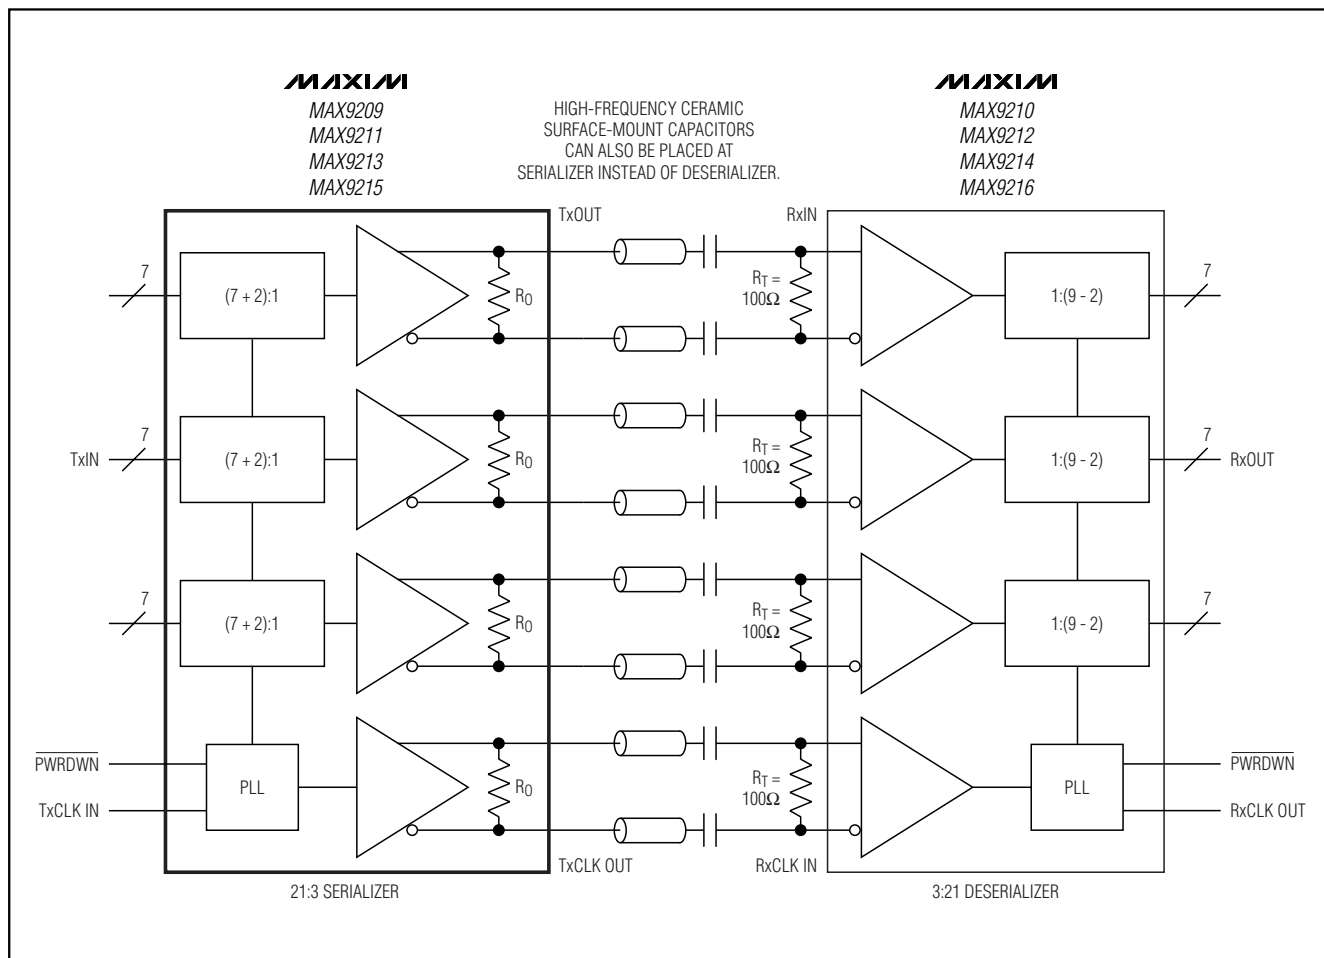
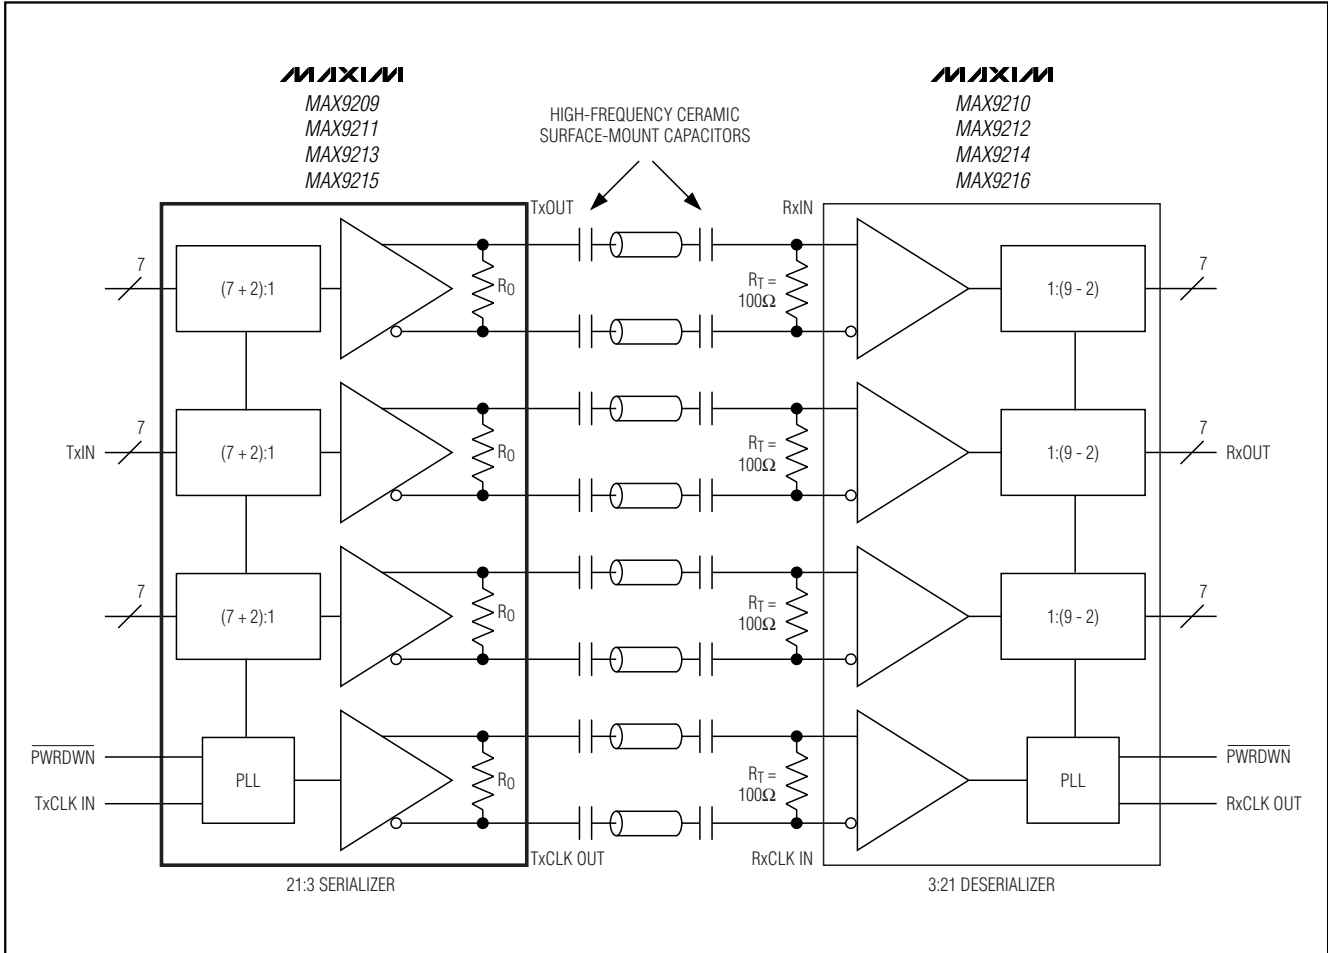

Figure 14. Two Capacitors per Link, AC-Coupled, DC-Balanced Mode
Figure 15. Four Capacitors per Link, AC-Coupled, DC-Balanced Mode
The RC network for an AC-coupled link consists of the LVDS receiver termination resistor ( $R_T$ ), the LVDS driver output resistor ( $R_O$ ), and the series AC-coupling capacitors (C). The RC time constant for two equal-value series capacitors is  $(C \times (R_T + R_O))/2$  (Figure 14). The RC time constant for four equal-value series capacitors is  $(C \times (R_T + R_O))/4$  (Figure 15).
Equation 1 is for two series capacitors (Figure 14). The bit time ( $t_B$ ) is the period of the parallel clock divided by 9. The DSV is 10. See equation 3 for four series capacitors (Figure 15).
Equation 1 altered for four series capacitors (Figure 15) is: